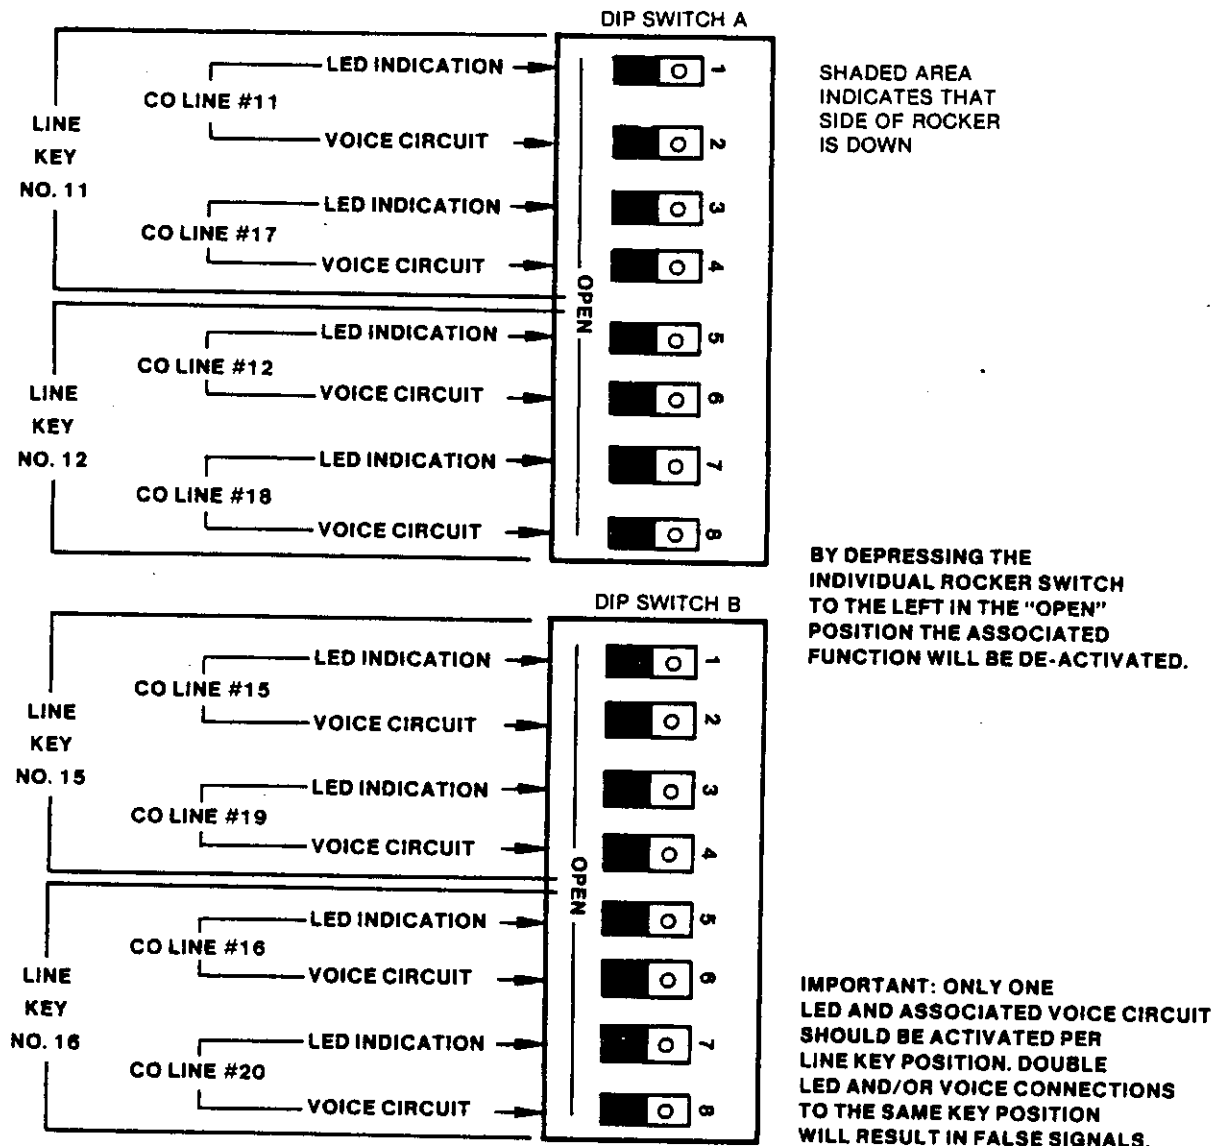

FIGURE 12 — ACCESS TO C.O. LINES #11, 12, 15, and 16 RESTRICTED
5.6.2 If rockers 5 & 6 of Dip Switch A are put in the OPEN position, there will be no LED indication for, nor access to C.O. line #12. See Dip Switch A of Figure 12.
5.6.1 If rockers 1 & 2 are placed in the OPEN position, there is no access via the EKT to C.O. line #11, nor LED indication of the line's activity. See Figure 12.
5.7 In an Expanded System access to C.O. lines #15 and #16 can be restricted by setting Dip Switch B rockers 1 & 2 and 5 & 6 in the OPEN position. See Figure 12.
6.4 **TABLE A** outlines the effects of the individual rocker settings on the EKT-102's users ability to access C.O. lines #11, #12, and #15 through #20. If all rockers are set in the OPEN position, (as shown in **Figure 12**), the EKT user could not access, nor would there be an LED display of the activities of C.O. lines #11, #12, and #15 through #20.